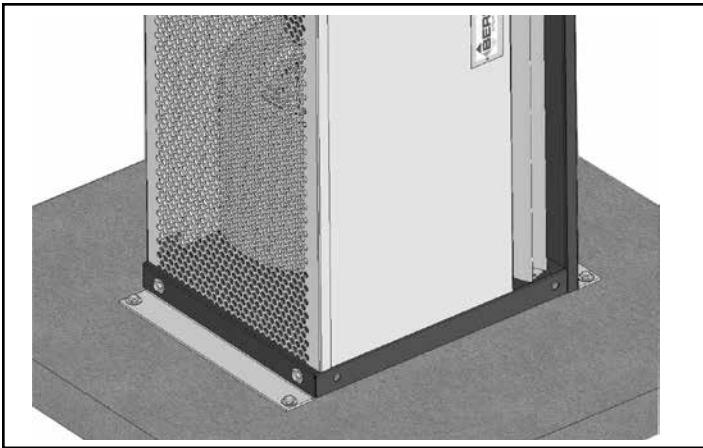

FIGURE 6 - Floor Mounting
- D. Position the unit vertically in its intended position and anchor it to the floor with a minimum $\frac{3}{8}$ " fastener. See Figure 6.